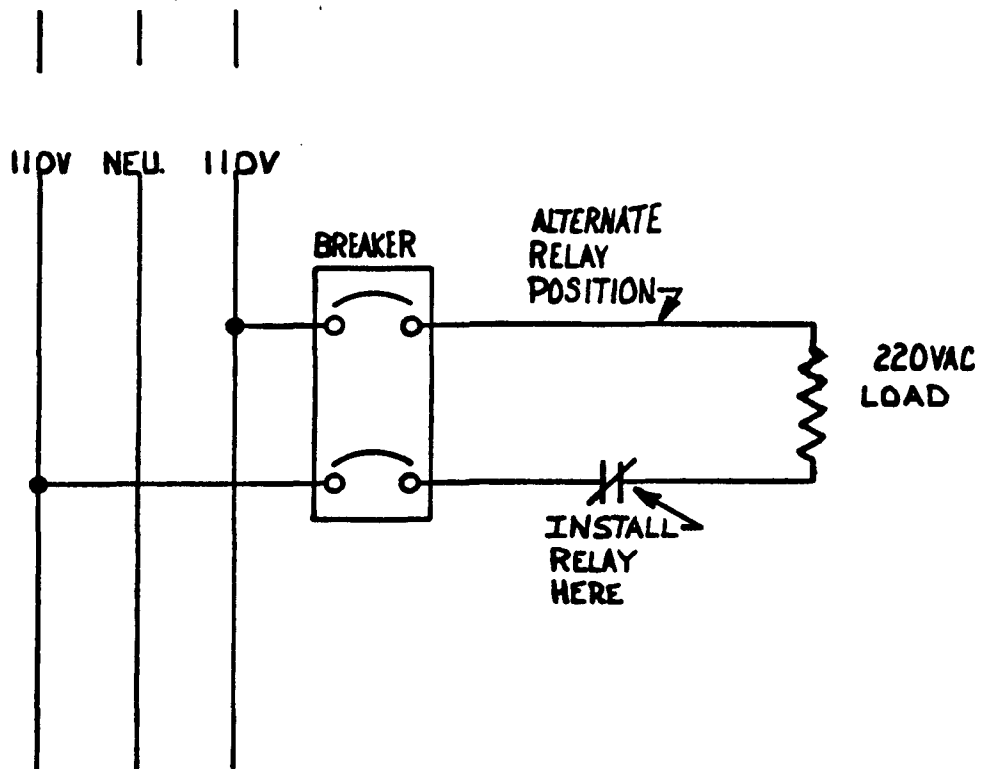

Figure 5
2. Heat circuits and the hot water heater are connected to the breaker panel as shown in FIG. 5. Both wires are connected to a 220VAC double pole breaker.
3. The relay is inserted in series with the load on one side of the load only as shown in FIG. 5 on the previous page.